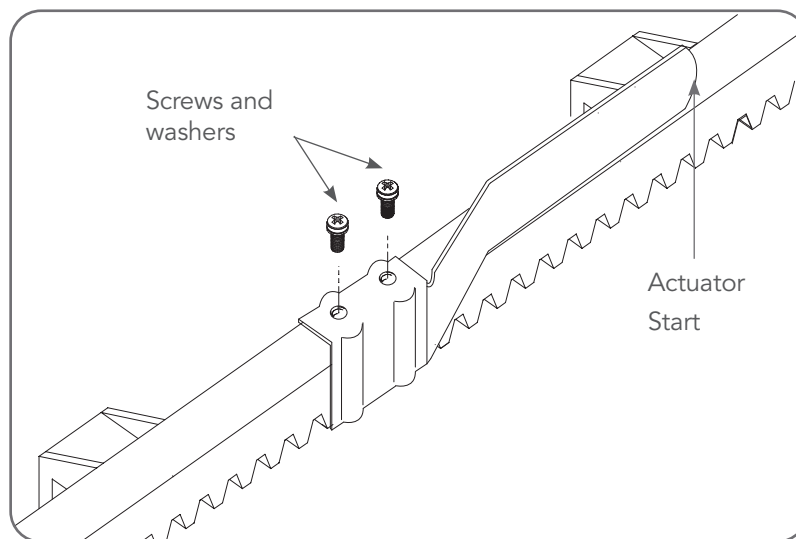

Fig 5.3
- Place the start of the limit actuator (5) at marked position and move it 5 to 10mm towards the centre of the gate. Screw the limit actuator to the rack (**Fig. 5.3**). Repeat for the close position.